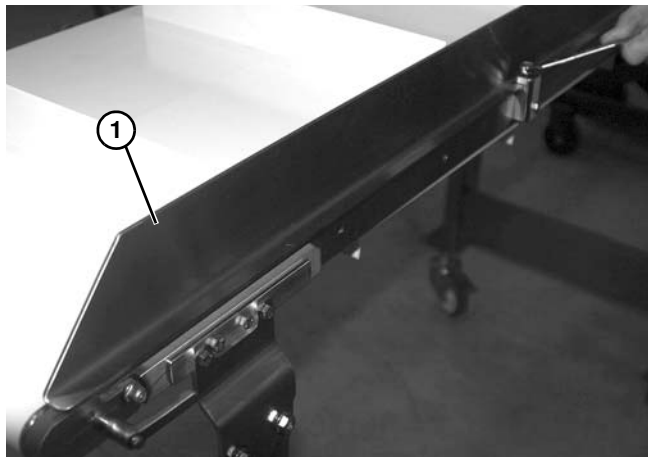

Figure 48
1. Remove guides (**Figure 48, item 1**) when required. See “Guide Installation” on page 16.